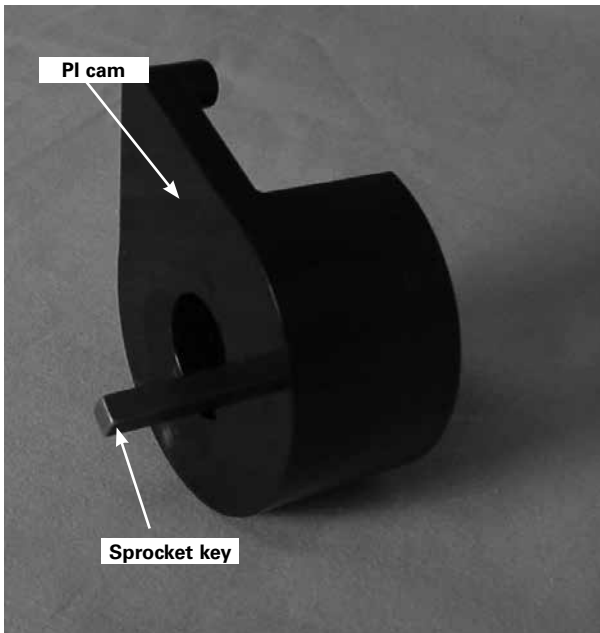

Figure 4. PI Cam and sprocket key
4. Remove the sprocket key from the drive-shaft slot. See Figure 4.